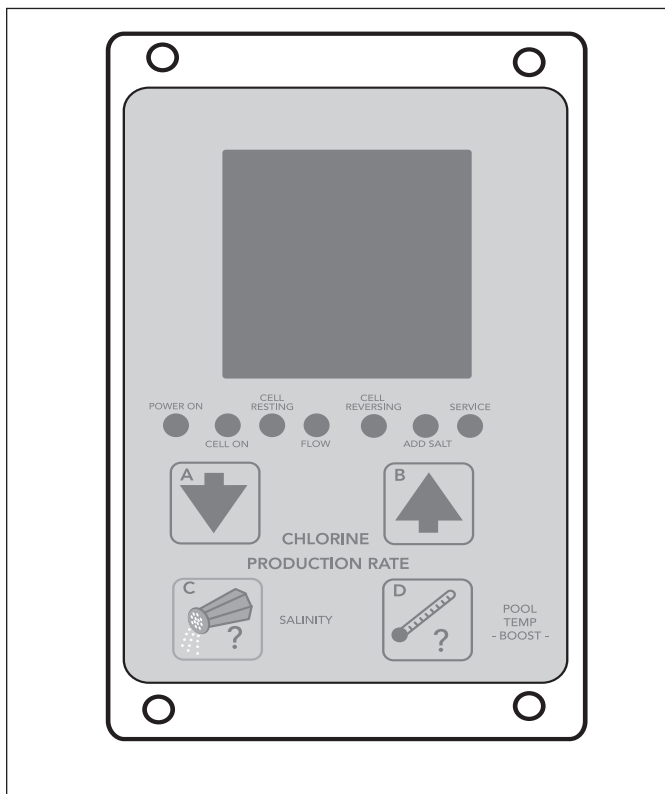

Figure 17. User Interface
**NOTE** The user interface is located inside the control/power center. To access the control panel, open the door to the control/power center. See Figure 17.